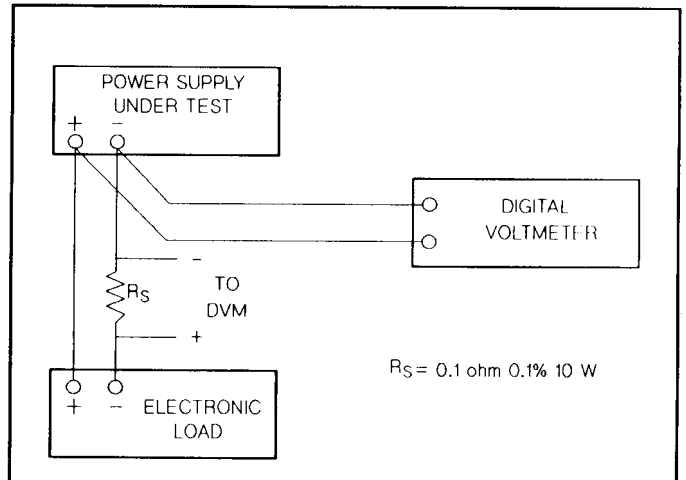

Figure A-2. Basic Test Setup
- Connect the test equipment as shown in Figure A-2. Operate the electronic load in constant current mode and set its current to the full rated value of the power supply (E3610A: 3.0 A, E3611A: 1.5 A, E3612A: 0.5 A). Input off the electronic load.
- Connect the test equipment as shown in Figure A-2. Operate the electronic load in constant current mode and set its current
- Connect the test equipment as shown in Figure A-2, but replace the DVM with the oscilloscope. Operate the electronic load in constant current mode.
- Connect the DVM across R_s in Figure A-2. Operate the electronic load in constant voltage mode and set its voltage to the full rated value of power supply. Input off the electronic load.
- Connect the DVM across R_s in Figure A-2. Operate the electronic load in constant voltage mode and set its voltage to the full rated value of power supply.